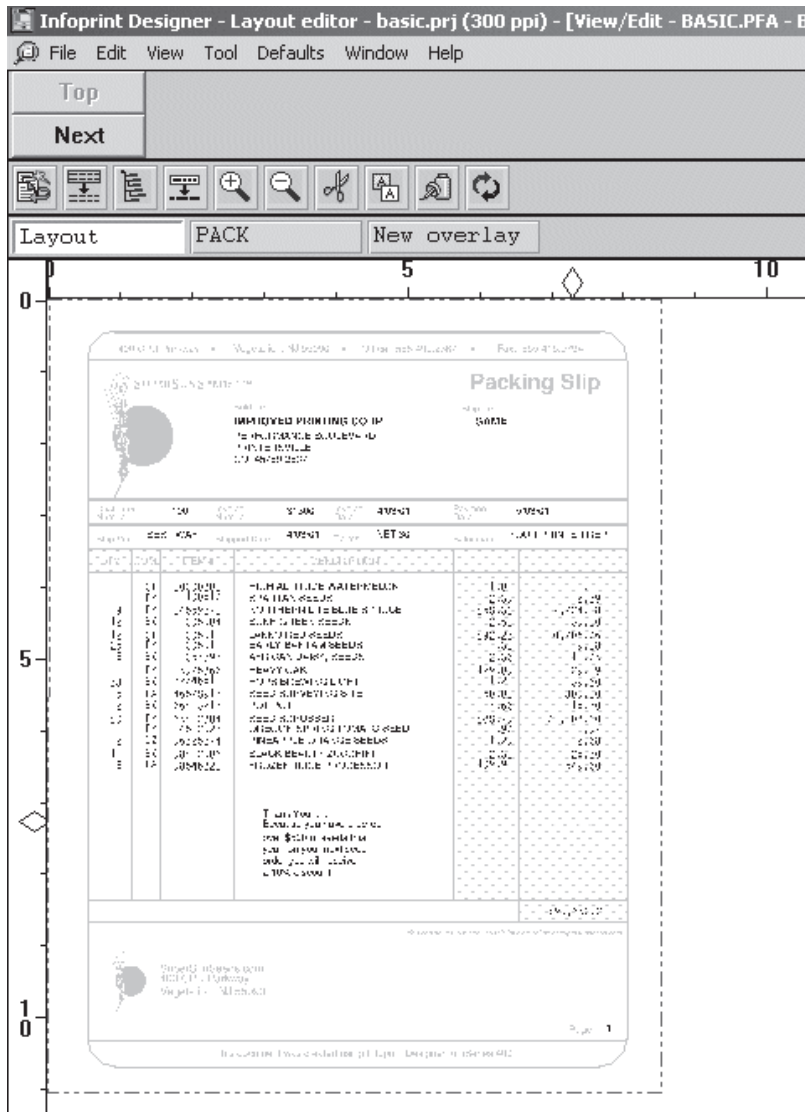

Figure 21. Second copy of the first invoice
7. The next dialog asks if you want to make another modified copy. When you select **No** and then **Finish**, the second copy is shown. Figure 21 on page 48 illustrates this.